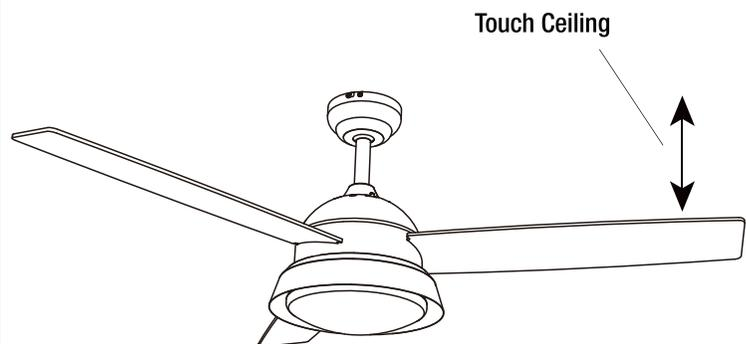

Figure 16
- Most fan wobble problems are caused when blade levels are unequal. Check this level by measuring the distance from the tip of one blade to the ceiling as shown in Figure 16. Rotate the fan until the next blade is positioned in the same place as the previous blade and measure again. Repeat for each blade. Measurements should be within 1/8 in.
Excessive Wobbling.	<ul style="list-style-type: none">□ Make sure that screws which attach fan blades to motor are fastened and tightened.□ Tighten screws of fan blade to motor securely.□ Ensure that canopy and mounting bracket are tightened securely to ceiling joist.□ Check by selecting a point on the ceiling above the tip of one of the blades. Measure this distance and ensure all blades are even (see Fig. 16).